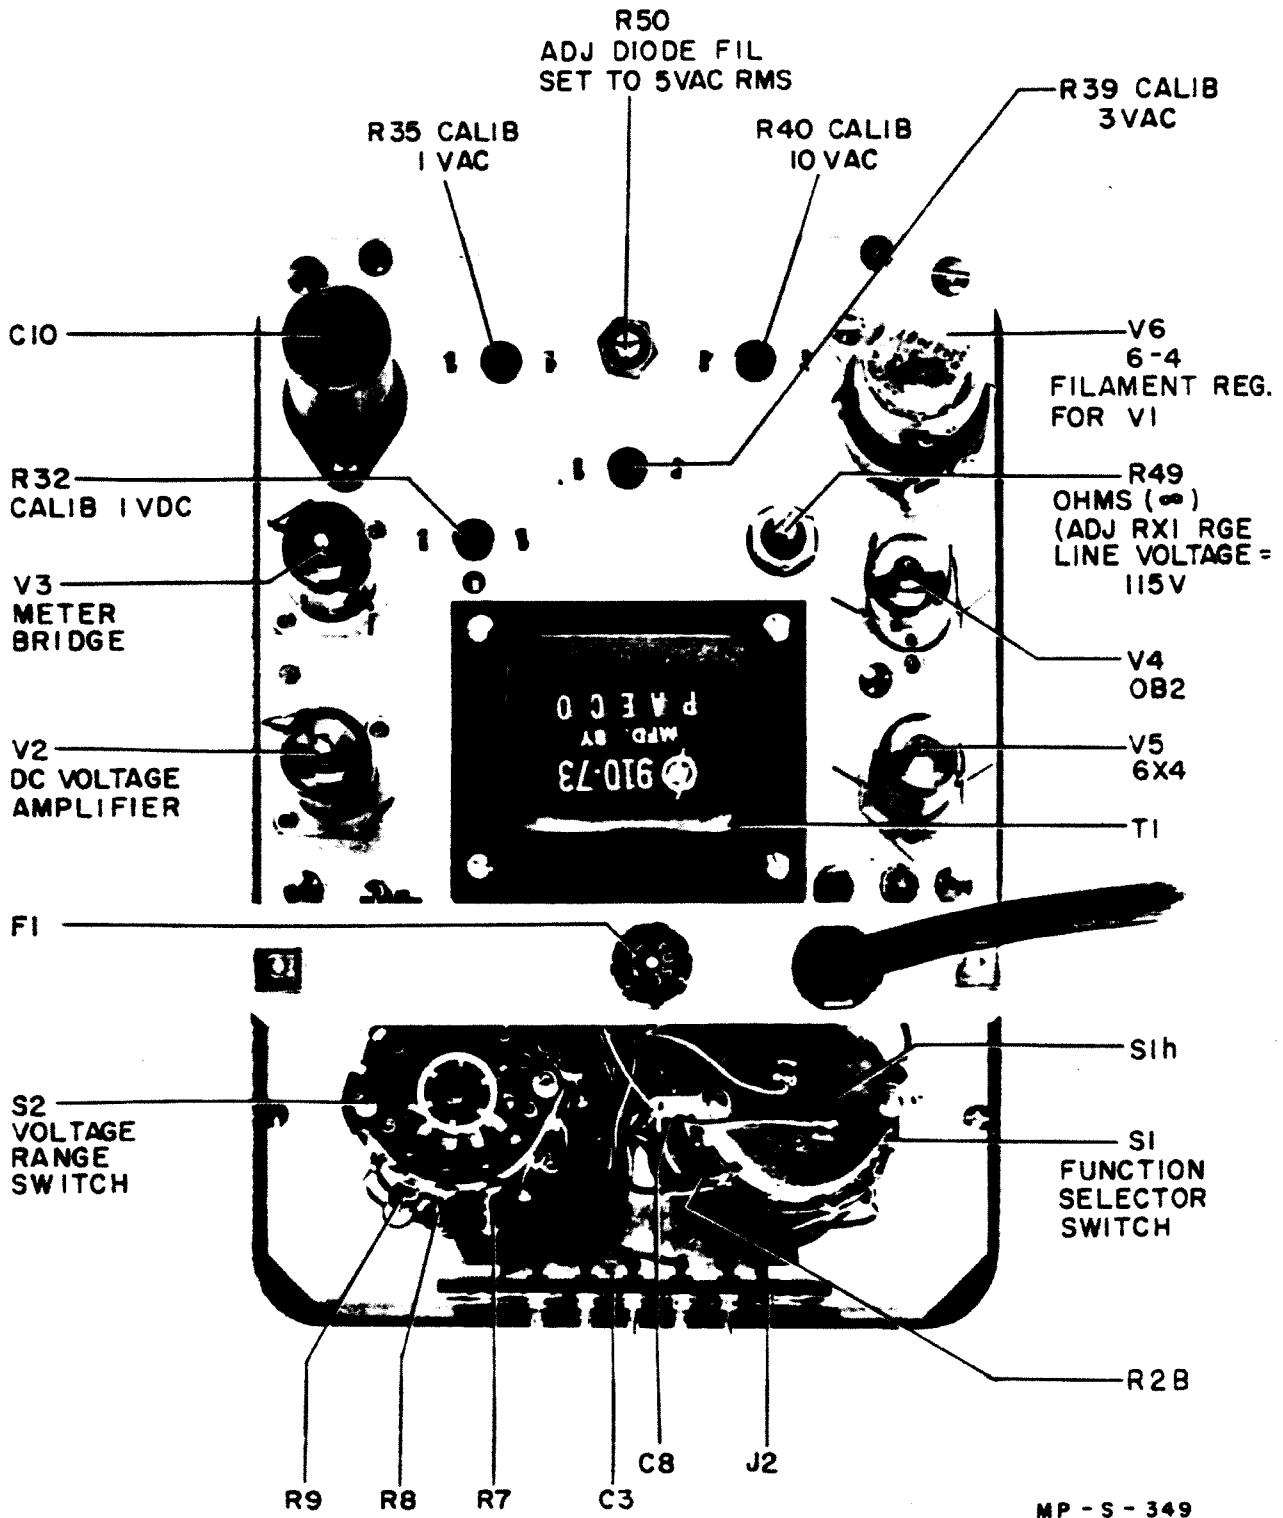

Figure 4-2. Rear View of Model 410B Chassis Removed from Instrument Case
- e. Apply exactly 1 volt d-c to the d-c test leads. This 1 volt value can be obtained using a battery and potentiometer arrangement. The voltage applied to the voltmeter should be monitored and adjusted using the precision d-c meter described earlier. With exactly 1 volt applied to the multimeter the meter pointer should indicate an exact full-scale reading on the uppermost scale. If necessary, adjust R32 through the back of the instrument to make the meter read exactly full-scale. R32 is identified in Figure 4-2 and by appropriate markings on the back of the instrument.